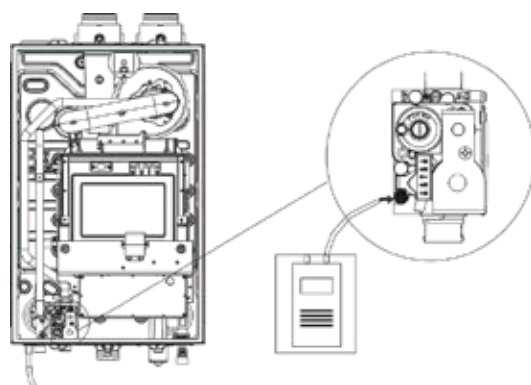

Figure 25
8. Loosen the screw indicated in Figure 25 and connect a manometer to the pressure port. Reset the manometer to zero before use.